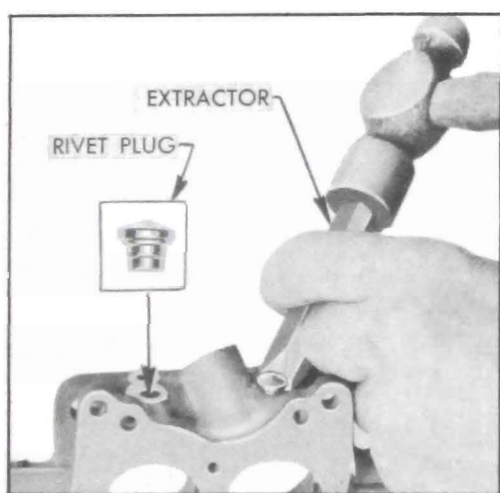

Figure 3-31—Removing Rivet Plug
18. Remove idle adjustment screws and springs from body flange. Remove both idle port rivet plugs, using Rivet Extractor T109-210. See figure 3-31.
8. *Main Body.* If passages in main body appear to be clogged with carbon and gum to such an extent that penetration of cleaning solution is doubtful, remove both nozzle passage rivet plugs using Rivet Extractor T109-210 (shown in fig. 3-31). *Do not attempt to remove nozzles or anti-percolator plugs from main body under any circumstance.*